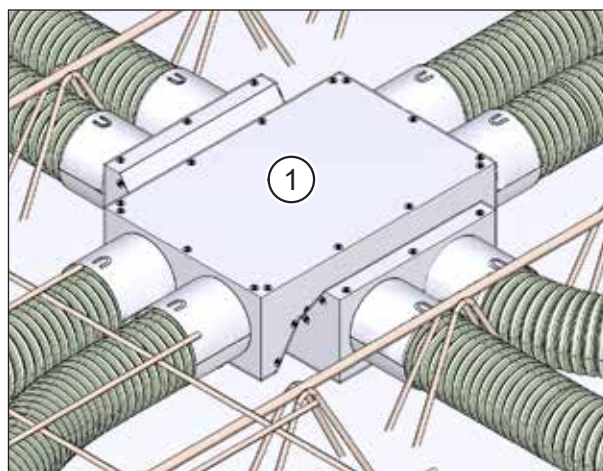

Fig. 6: Crossing flexible pipes
- ▶ Use a crosspiece (item 1 in Fig. 6) if the structural conditions require the extract air and supply air pipes to cross.